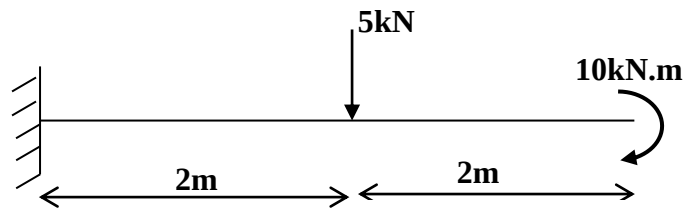

Figure7 [Q-5 (c)]
- (c) Analyse the cantilever beam of span 4 m shown in **Figure 7**. Also draw shear force and bending moment diagram.